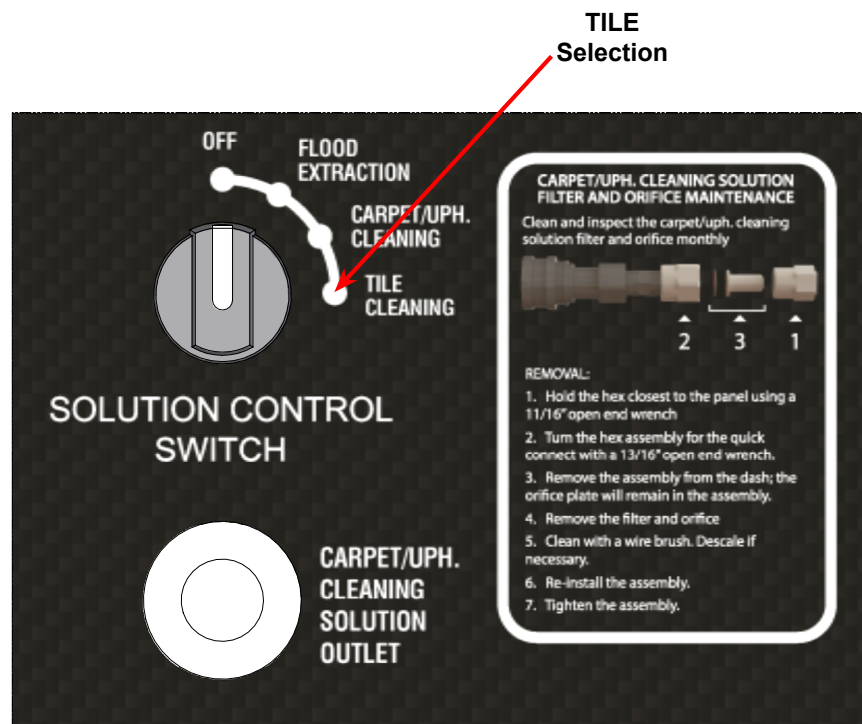

Figure 4. Select "TILE" on Solution Control Switch
6. Select "TILE CLEANING" on the Solution Control switch (see Figure 4).